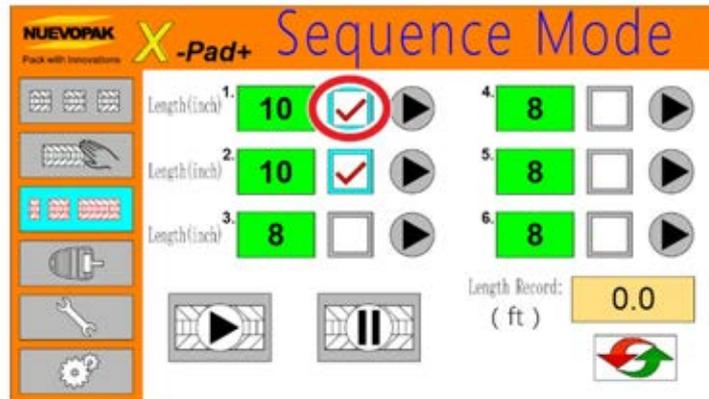

Figure 41 Check Keys - Sequence Mode
2. Change the pre-set output length (refer to Figure 41).